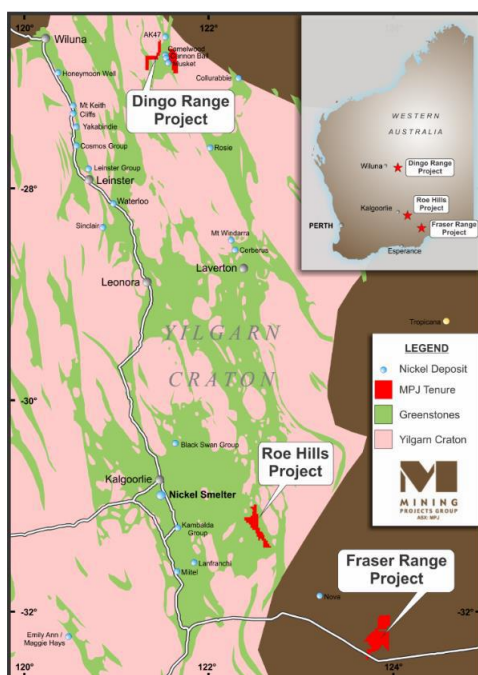

Figure 1. MPJ projects location in Western Australia
Mining Projects Group (ASX:MPJ) is pleased to advise that ongoing geophysical surveys have identified several more high priority bedrock electromagnetic (EM) conductors at the Company's 100%-owned Roe Hills nickel project near Kambalda in WA (see Figure 1).